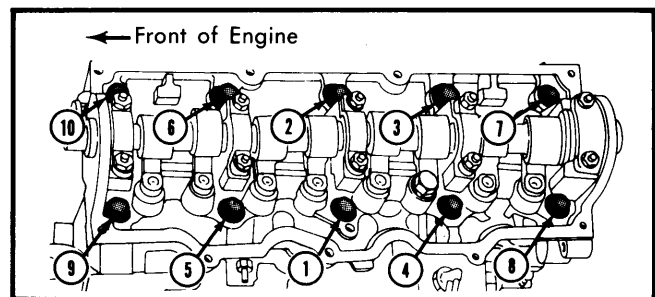

Fig. 2 Cylinder Head Tightening Sequence (Loosen in Reverse Order – No. 10 to No. 1)
2) Place new gasket on block, install cylinder head and head bolts, tightening in 3 steps: 1st to 30 ft. lbs. (4.15 mkg); 2nd to 45 ft. lbs. (6.22 mkg); 3rd, check again at 45 ft. lbs. (6.22 mkg) and turn another 1/4 turn. See Fig. 2.